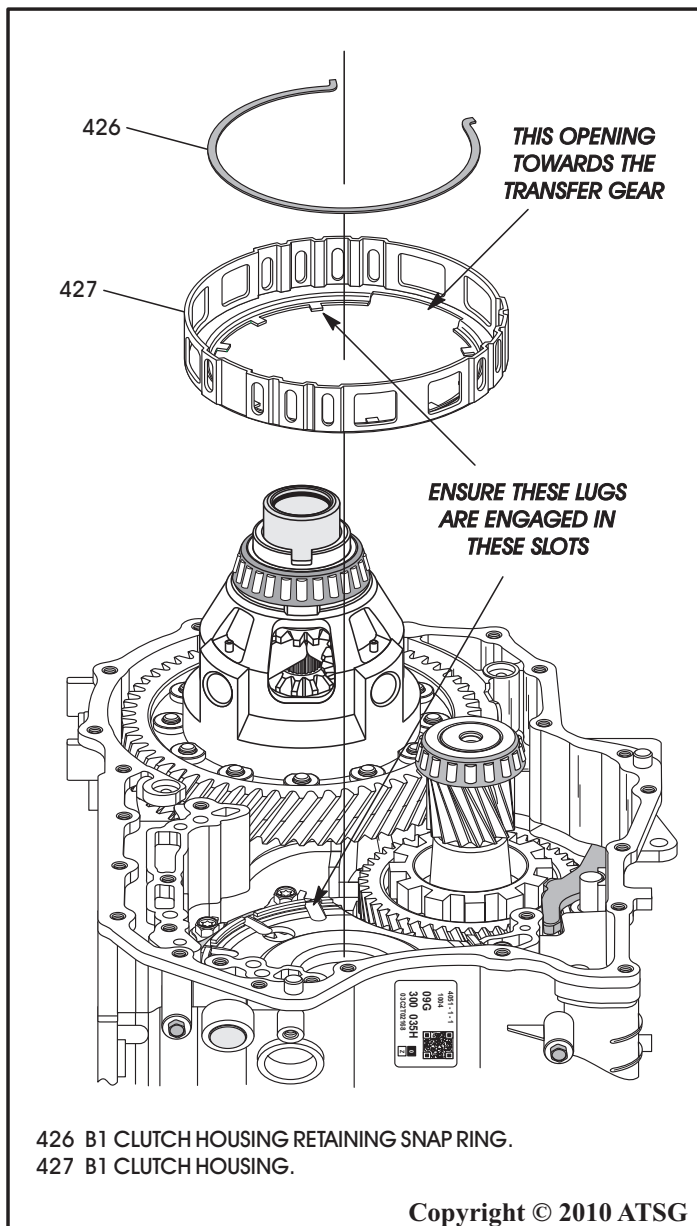

Figure 177
6. Install the B1 clutch housing with the opening towards the transfer driven gear, as shown in Figure 177, and insure lugs are engaged in slots in the center support.
7. Install the B1 clutch housing retaining snap ring with opening towards the transfer gear, as shown in Figure 177, and ensure it is fully seated in the center support.
Note: This snap ring is identified by two small "turn-outs" at the snap ring ends, as shown in Figure 177.